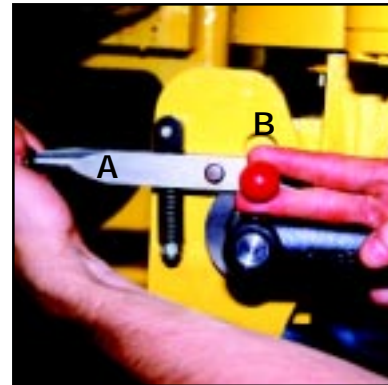

figure 11
5. To engage the cut, release the feed control lever by pulling the feed lock out of pin out (figure 11).